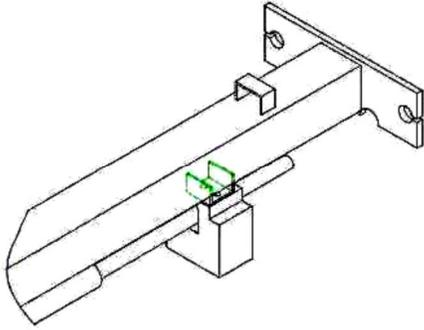

Fig. 6a
7. Install Overhead Limit Switch & Overhead Beam (Figs. 6a, 6b & 6c)
- A. Install overhead limit switch assembly to overhead beam, using 2ea 1/4"-20 Bolt & Lock Nuts as shown in figs 6a, 6b & 6c.